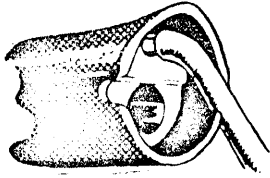

Figure 8-3a. Wire-Wrap Procedure
4. Insert the skinned wire into the small hole of the wrapping bit (Figure 8-3a) taking care to insert the wire up to the insulation. Do not bend the skinned portion of the wire, it may be difficult to slide into the bit.